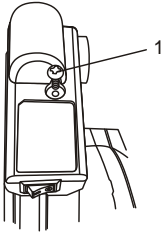

Fig. 12
2. Remove the laser cover screw (1) using a #2 \oplus screwdriver (Fig. 12).